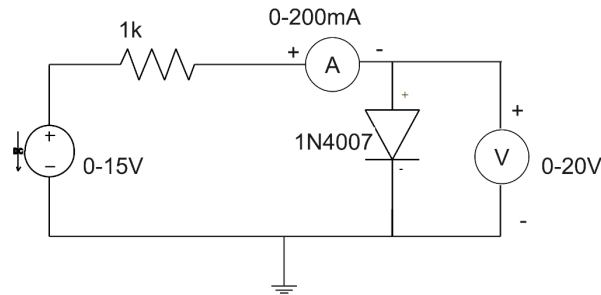

Figure 3.2: diode as forwards bias
DC or Static Resistance It is defined as the ratio of the voltage to the current, V/I , in the forward bias characteristics of the PN junction diode. In the forward bias characteristics of the diode as shown in Figure 3.2, the d.c. or static resistance (R_f) at the operating point can be determined by using the corresponding levels of voltage V and current I ,
1. Connections are made as per Figure 3.2.